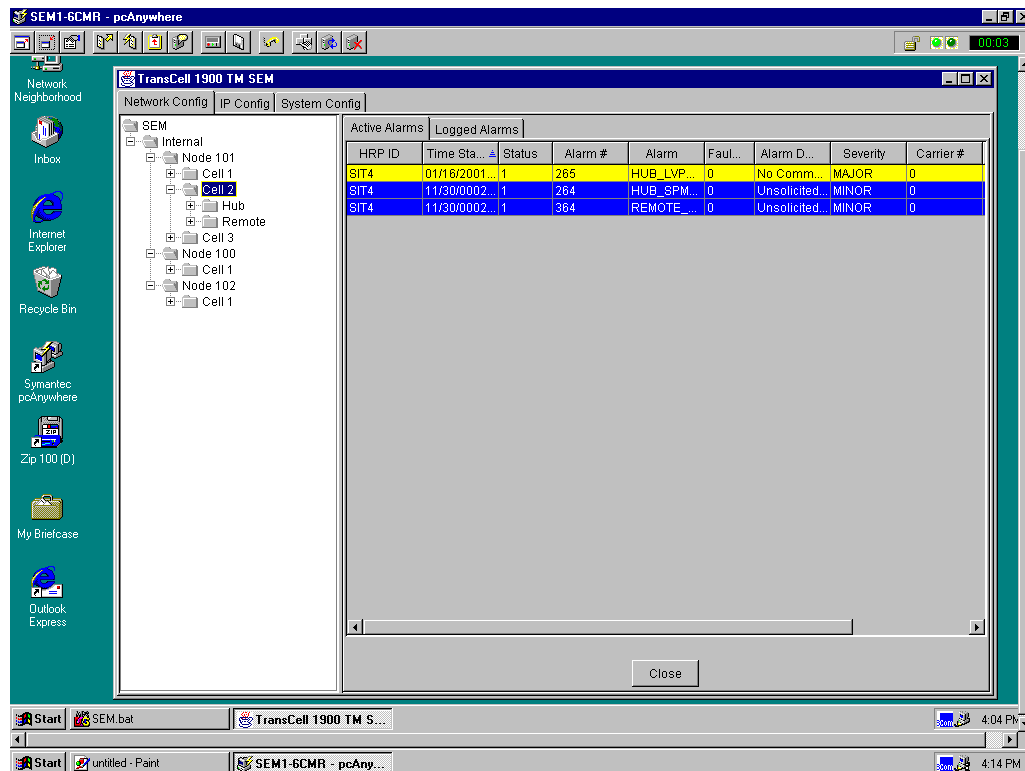

Figure 5-13. Remote SEM Session
- d. If everything was entered correctly pcAnywhere will display the SEM's desktop as shown in Figure 5-13. You may now monitor system activity and modify SEM parameters as if you were local to the SEM workstation.